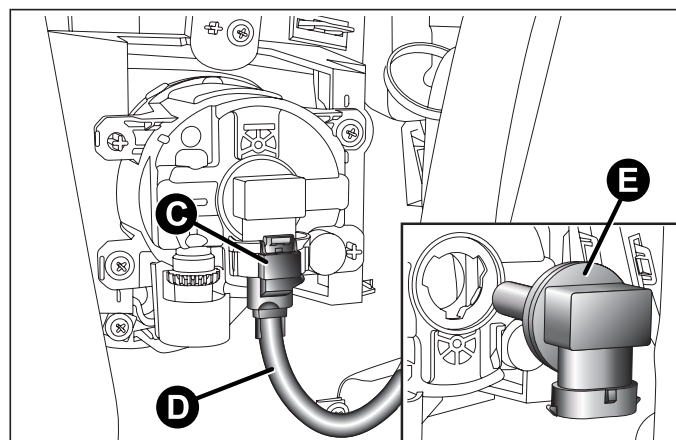

fig. 129
- ☐ adjust the catch C fig. 129 and disconnect the electrical connector D;